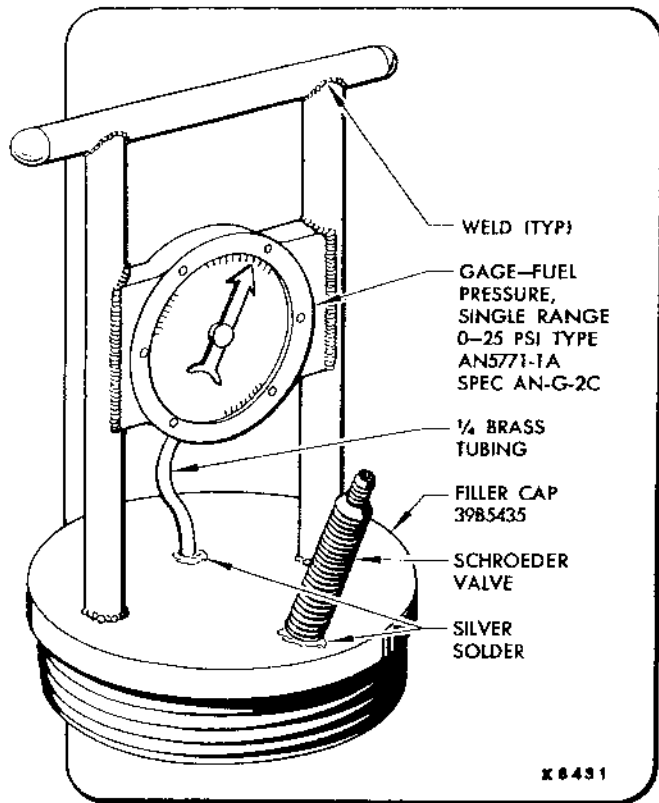

Figure 106C — Droppable Tank Pressure Testing Gig
13. Remove tip tank filler cap and install locally manufactured test gig. (See figure 106C.)
17. Remove tank filler cap and install locally manufactured test gig. (See figure 106C.)